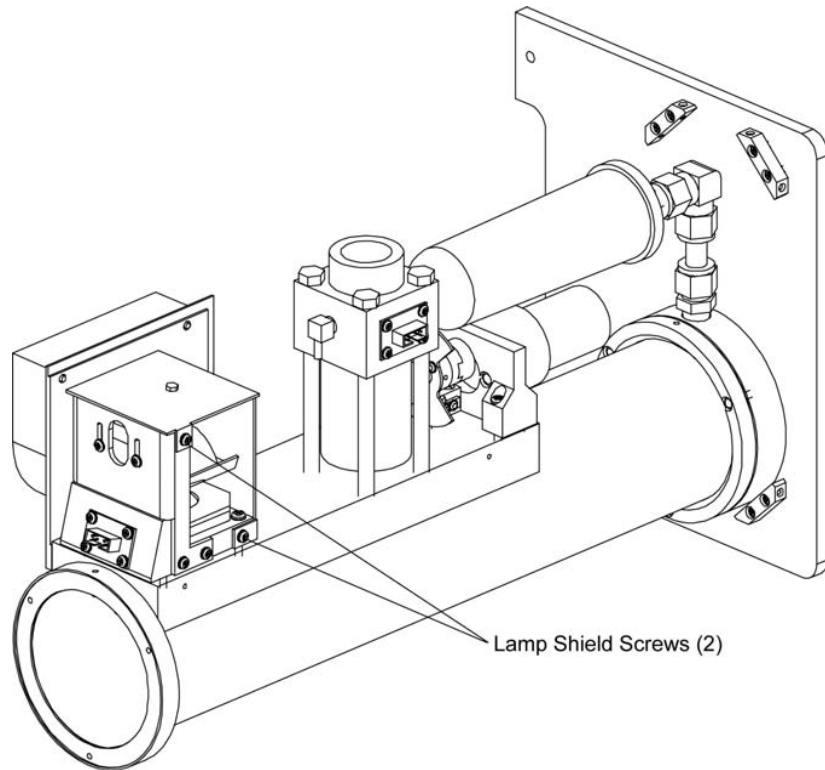

Figure 8-8
3. Unscrew the two screws attaching the lamp shield. Remove the shield, supporting the shield so that it does not hang by the sensor wires (Figure 8-8).